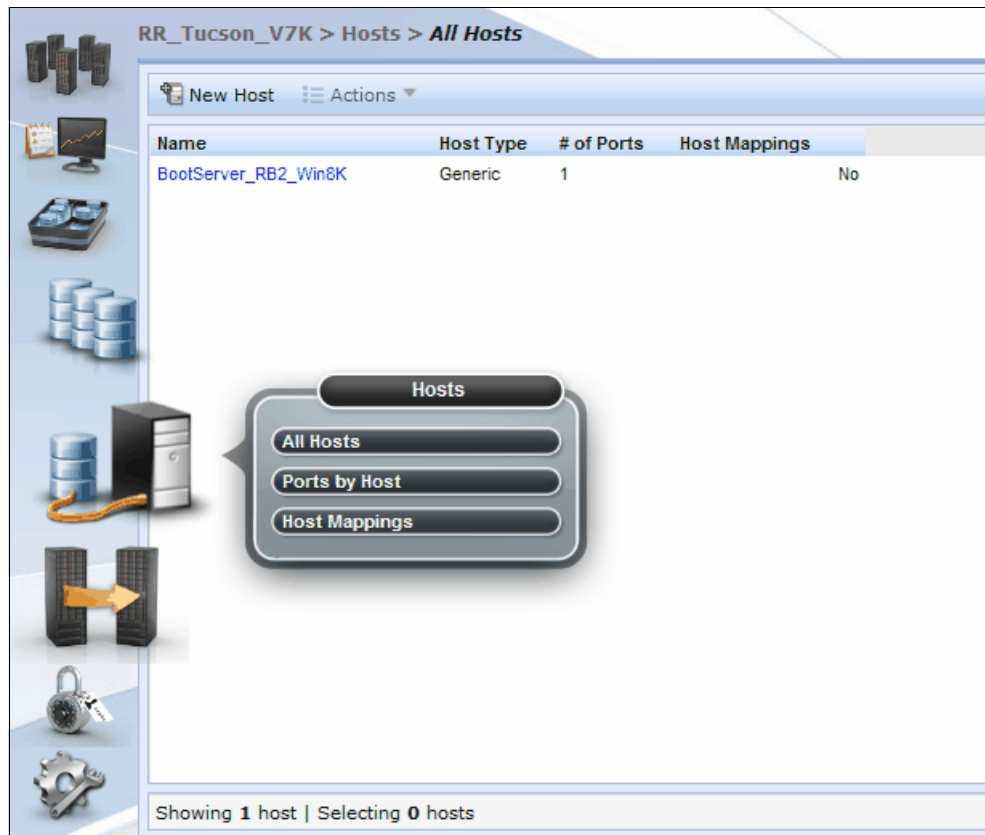

Figure 5-31 Selecting Host
1. Click the icon **Hosts** → **All Hosts**, as shown in Figure 5-31.